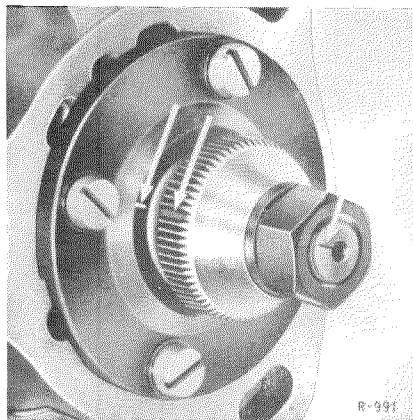

Figure 07-11/7
3. Carry out operations according to section A. OM 636, items 7 and 8.
5. Set the injection pump to feed begin. To do this, turn the pump shaft until the mark or the tooth space of the follower and the mark on the injection pump coincide (see Figure 07-11/2 and Figure 07-11/7).
Note: On the injection pumps as from engine No. 621.910-10-012022, the mark on the follower was replaced by a tooth space identification (see Figure 07-11/7).
Before inserting the injection pump, check again whether the piston of cylinder 1 is in the compression stroke and the crankshaft has such a position that the adjusting hand (10) on the crankcase points to **45 deg BTDC** on the gradation of the counterweight (9) (see Figure 07-11/6).
With the box wrench (23) and the spring (19), retain now the injection timing device opposite the direction of rotation in its idling end position (see Figure 07-11/6).
9. Insert the injection pump into the coupling sleeve so that the studs are in the centre of the oblong holes (1) of the mounting flange (see Figure 07-11/4). This allows swivelling for precision adjustment to both sides.
11. Turn the crankshaft in **direction of rotation** until the **26 deg** BTDC reading on the gradation of the counterweight (9) coincides with the adjusting hand (10) (see Figure 07-11/6). Thereby the piston of cylinder 1 should be in compression stroke position.